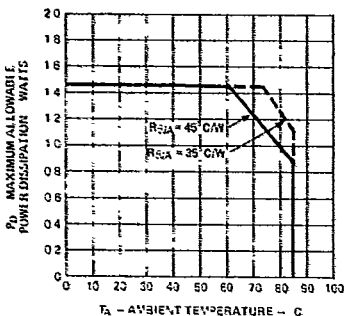

Figure 2. Maximum Allowable Power Dissipation vs. Temperature
- 2 The device should be derated linearly above 60°C at 22.2 mW/°C. This derating is based on a device mounted in a socket having a thermal resistance from case to ambient at 25°C/W per device. See Figure 2 for power deratings based on a lower thermal resistance.
The HDSP-2490/-2491/-2492/-2493 are available in standard ceramic dual-in-line packages. They are designed for plugging into sockets or soldering into PC boards. The packages may be horizontally or vertically stacked for character arrays of any desired size. The HDSP-2490/-2491/-2492/-2493 utilize a high output current IC to provide excellent readability in bright ambient lighting. Full power operation V_{CC} = 5.25V, V_B = 2.4V, V_{COL} = 3.5V with worst case thermal resistance from IC junction to ambient of 45°C/watt/device is possible up to ambient temperature of 60°C. For operation above 60°C, the maximum device dissipation should be derated linearly at 22.2 mW/°C see Figure 2. With an improved thermal design, operation at higher ambient temperatures without derating is possible. Please refer to Application Note 1016 for further information.